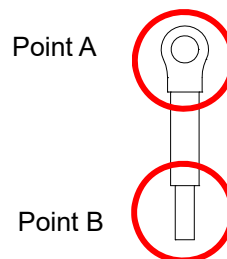

Figure 8-38
- You must ground the option cards listed below when wiring. The ground terminal is included with option card as shown in Figure 8-38